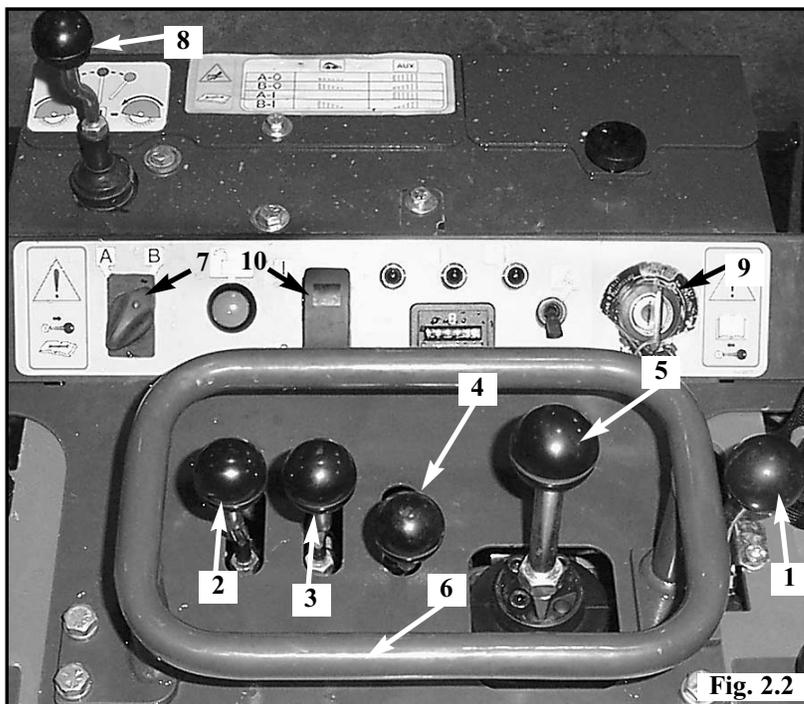

Fig. 2.2
All functions are controlled from the top console of the mini-skid as shown in Fig. 2.2.
OPERATOR AREA CONTROLS (Fig. 2.2)
DASH PANEL CONTROLS (Fig. 2.2)
The throttle control is on the right hand side of the operator area controls (Item #1 in Fig. 2.2). When the throttle control is set fully back the engine is at idle speed. Moving the throttle control forward increases the engine speed. The machine should always be operated with the throttle fully open.
The THOMAS Mini-Skid Loader features two separate auxiliary systems. The auxiliary lever (Shown as item #4 in Fig. 2.2) is part of the primary controls, and is located between the main levers. This control is connected to the pair of quick connect couplings located on the right side of the Mini-Skid Loader arms. Pushing this lever forward extends the attachment hydraulic cylinder, while pulling it back reverses the motion.
This lever is located to the left and forward of the operator area controls (See Fig. 2.2, page 5, item 8), and operates the set of quick connect couplings located on the left hand side of the Mini-Skid Loader arms.